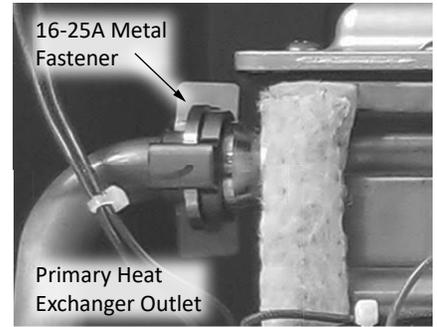

Figure 61: Primary Heat Exchanger Outlet.
- 17 Disconnect the 16-25A metal fasteners connecting the copper pipe to the primary heat exchanger outlet (# 468) and the water outlet tee. Move the pipe aside and keep the metal fasteners for re-installation. See Figure 61.
39 Reconnect the copper pipe (# 468) to the primary heat exchanger outlet and the water outlet tee. Inspect the O-rings, if any cuts or nicks are present replace them immediately. Use the 16-25A metal fasteners removed earlier. See Figure 61 on page 56.